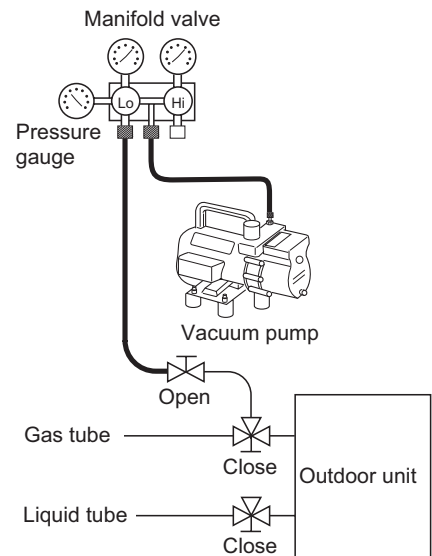

Fig. 1-41
- (1) Attach the charge hose end described in the preceding steps to the vacuum pump to evacuate the tubing and indoor unit. Confirm that the “Lo” knob of the manifold valve is open. Then, run the vacuum pump.
- (2) When the desired vacuum is reached, close the “Lo” knob of the manifold valve and turn off the vacuum pump. Confirm that the gauge pressure is under -101 kPa (-755 mmHg , 5 Torr) after 4 to 5 minutes of vacuum pump operation. (Fig. 1-41)